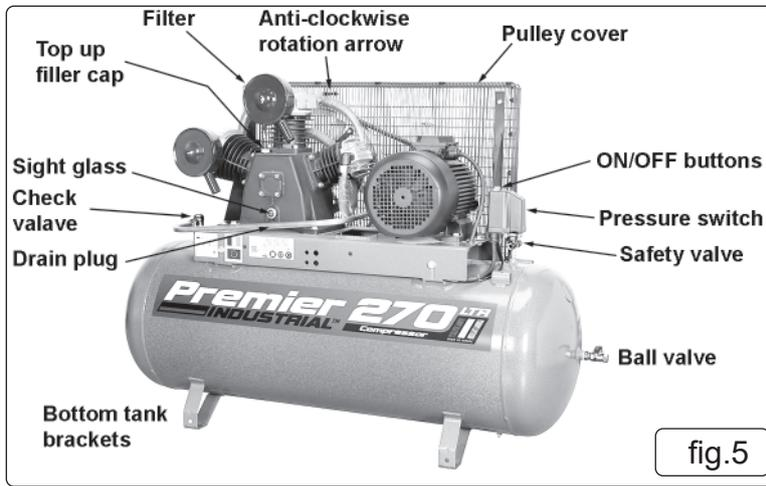
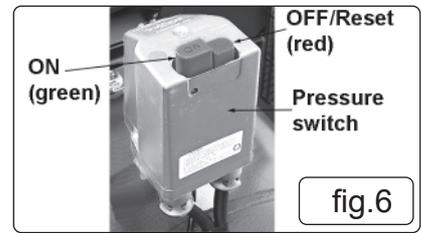

fig.5
fig.6
4.2.1. Screw the filter unit into the port openings in each head as shown in (fig 5).
4.2.2. Place a filter cover over each threaded rod protruding from the back half of the filter and secure each with a wing nut (fig 5).
- 5.4. Before using the compressor check the oil level by referring to the oil sight glass (fig 5), if the oil level is not up to the red centre mark it should be further topped up with recommended oil, see section 6.7.
- 5.5. To top up, undo filler cap (fig 5), top up oil level to required level, then replace filler cap.
- 5.7.1. To turn the compressor on depress the green ON button (fig 6).
- 5.7.2. To turn the compressor off depress the red button OFF (fig 6).
- 5.7.4. Plug the mains lead into mains supply and start the compressor by depressing the green ON button (fig 6).
- 5.7.5. Leave the compressor running with no air line or tools connected. Make sure that the pressure in the tank rises and that the compressor stops automatically when the maximum pressure is reached. This value is written on the specification plate and may take in excess of 5 minutes. The compressor will now operate automatically. The pressure switch (fig 6) stops the motor when the maximum tank pressure is reached and restarts it when pressure falls below the minimum threshold approximately 2bar (29psi) less than the maximum pressure.
- 5.7.6. Stop the compressor by depressing the red button OFF (fig 6). The compressed air inside the compressor head will flow out via the air line tube situated beneath the switch housing. Restart is made easier and prevents the motor from being damaged. **DO NOT**, other than in an emergency, stop the compressor by switching off the mains power, or by pulling the plug out, as the pressure relief will not then occur and motor damage may result upon restart. When the compressor runs correctly and is stopped correctly there will be:
- B:** A protracted whistle (about 20-25 seconds) when the compressor starts with no pressure in the tank.**NOTE:** If the motor does not cut in and out, but runs continuously when using an air appliance, the capacity of the compressor may be too small for the equipment or tool. Should the pressure in the main tank exceed the pre-set maximum, the safety valve (fig 5) will activate.
- **WARNING!** For this reason **DO NOT** tamper with, or adjust, the pressure switch (fig 6) or safety valve (fig 5).
Remove the filler cap (fig 5) then unscrew the drain plug (fig 5) and drain the oil into a suitable waste oil container.